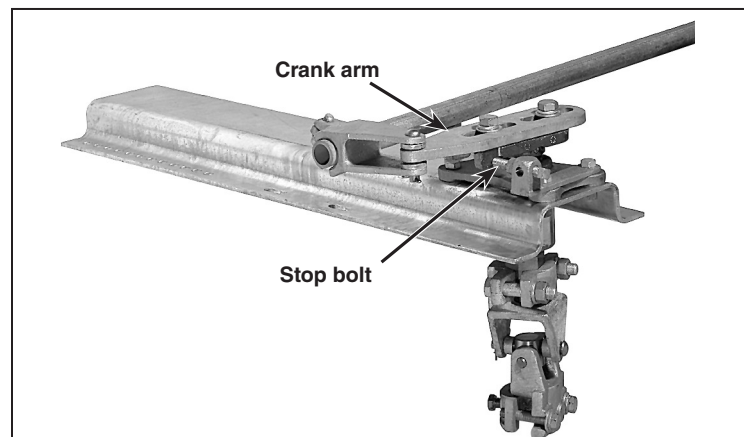

Figure 12. An outboard bearing crank arm lying against the stop bolt.
STEP 10. Make sure the outboard bearing crank arm(s), if applicable, lies against its stop bolt. See Figure 12.